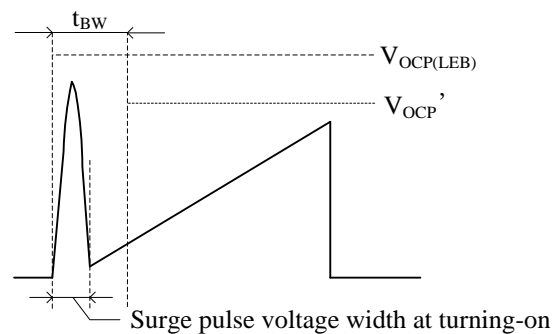
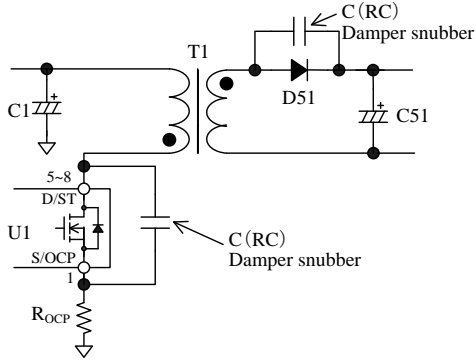

Figure 9-12. S/OCP Pin Voltage
Figure 9-13. Damper Snubber
During Leading Edge Blanking Time, the OCP threshold voltage becomes  $V_{OCP(LEB)} = 1.69\text{ V}$  which is higher than the normal OCP threshold voltage as shown in Figure 9-12. Changing to this threshold voltage prevents the IC from responding to the surge voltage in turning-on the power MOSFET. This function operates as protection at the condition such as output windings shorted or unusual withstand voltage of secondary-side rectifier diodes.
When the power MOSFET turns on, the surge voltage width of the S/OCP pin should be less than  $t_{BW}$ , as shown in Figure 9-12. In order to prevent surge voltage, pay extra attention to  $R_{OCP}$  trace layout (see Section 10.2). In addition, if a C (RC) damper snubber of Figure 9-13 is used, reduce the capacitor value of damper snubber.